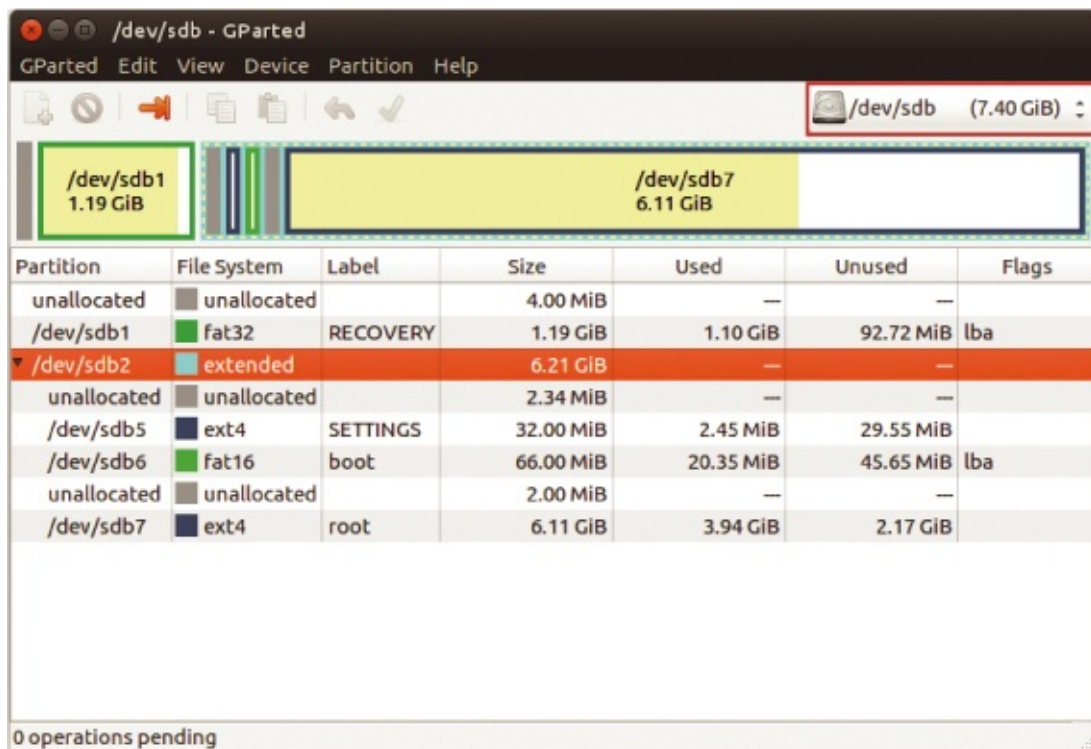

FIGURE 0-10: GParted on Ubuntu
3. Select your microSD card at the top right, as shown in Figure 0-10.